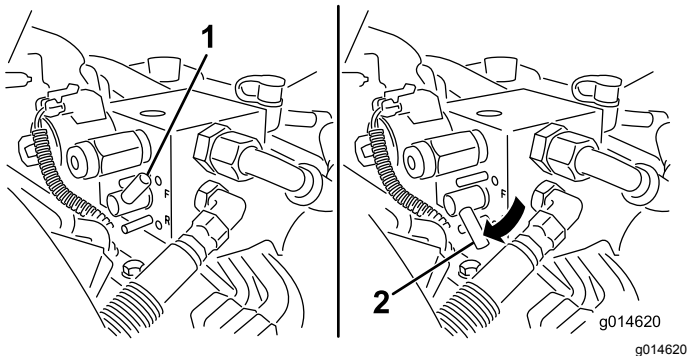

Figure 52
5. Rotate the backlap lever to the REVERSE (R) position (Figure 52).